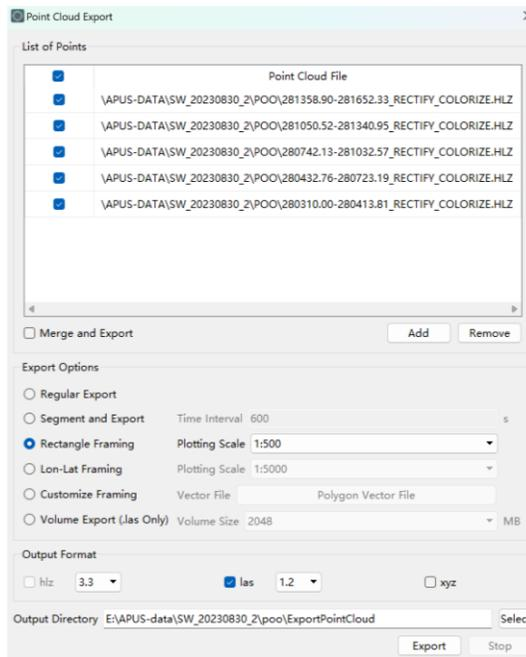

Figure 3-71 Split export settings
- Rectangle Framing: each original scanned file is exported to multiple point cloud files according to the polygons in the polygon file, and the polygons involved in the export can be set by the field values (Figure 3-71).